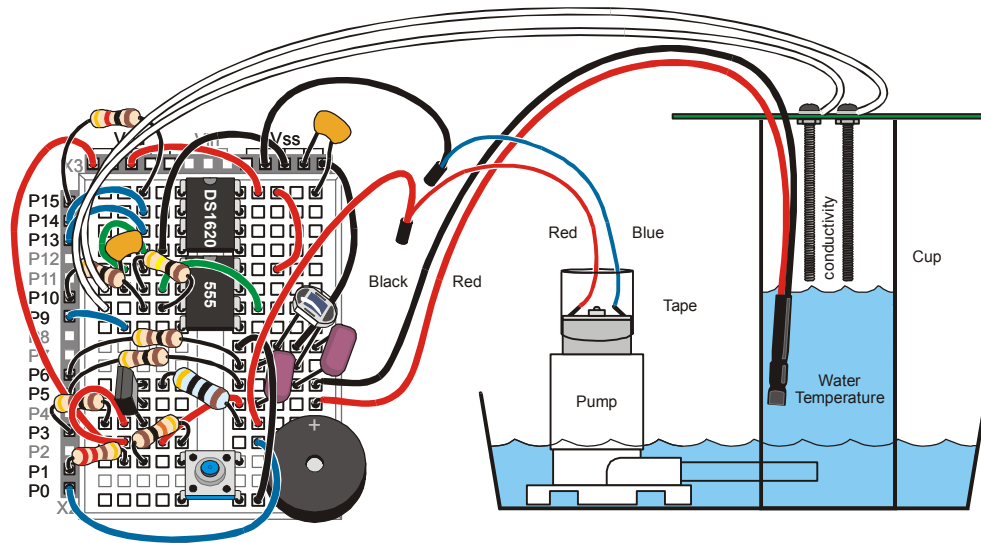

Figure 6-3: Pump Control with Transistor Wiring Diagram for the Board of Education
- ✓ Add the transistor and pump circuit to the Board of Education, following the schematic in Figure 6-2 and the wiring diagram in Figure 6-3.
- ✓ For the moment, lay the conductivity sensor aside, but it will rest across the rim of the cup as shown in Figure 6-3 later on in the experiment.